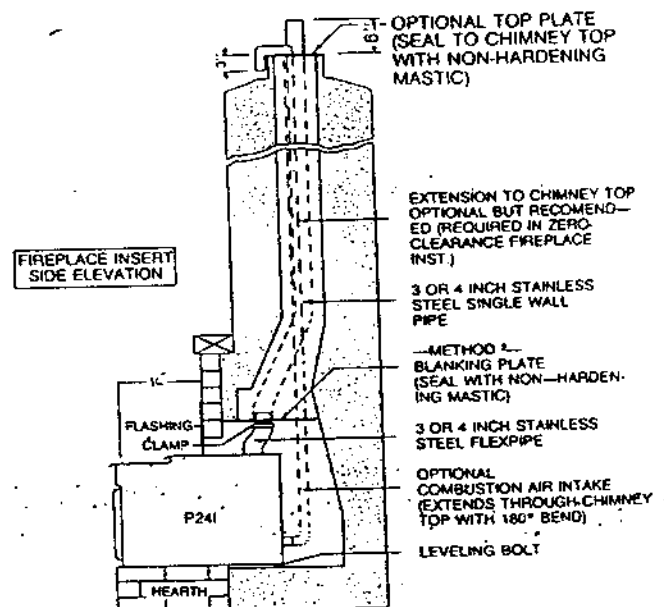

FIGURE 7
3. Top of chimney (see figure 7). There should be a 180 degree bend at top in this type of installation. All factory built fireplaces requiring outside air must use this method.
Insert installations must be vented with 3" or 4" pipe (see figure 7). Pipe may be single wall stainless steel flexible pipe. In zero-clearance fireplace installations, vent must extend to chimney top. In masonry fireplaces, vent may extend to just past blanking plate. See section 2.2 for outside air access information.
1. Measure chimney height from bottom to top tile, subtract one foot. This should be the approximate length of combustion air supply pipe. Vent pipe should terminate at least 6" above chimney. Combustion air pipe should extend out of chimney and bend 180 degrees to eliminate water from running down the Pipe. SEE FIGURE 7.